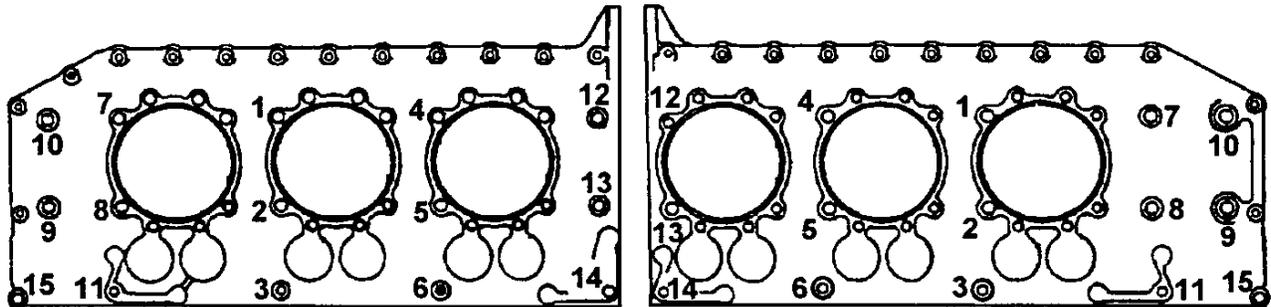

FIGURE 17-4. CRANKCASE DIMENSIONAL INSPECTION TORQUING SEQUENCE
1. All crankcase attaching hardware must be torqued to the sequence specified in Figure 17-4.